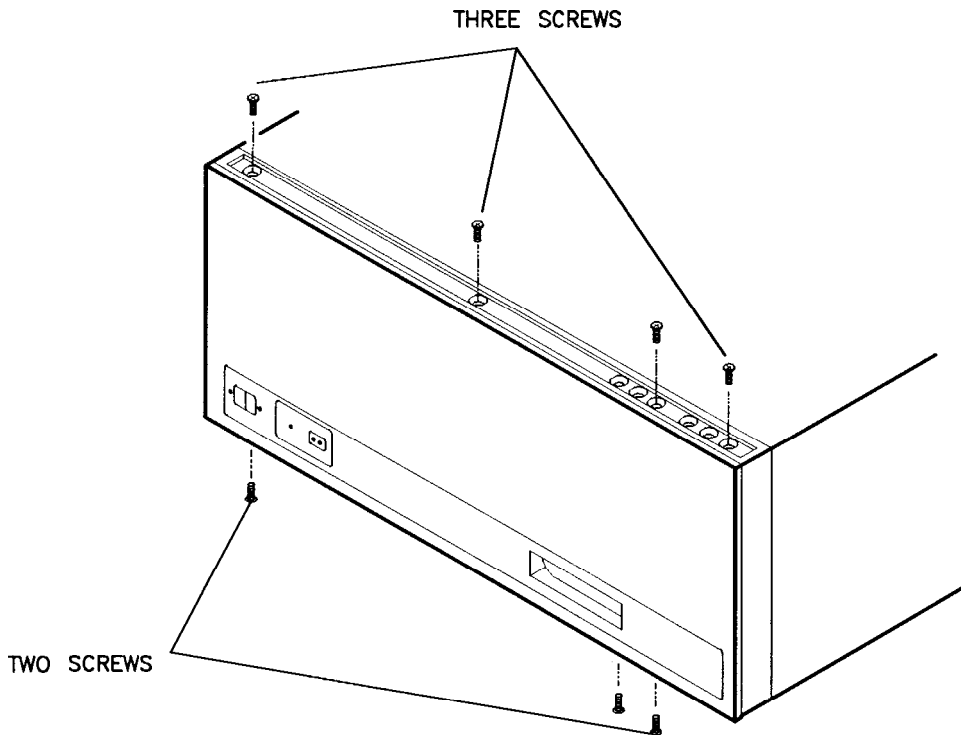

Figure 7-4. Front Panel Screw Locations
1. Remove three of the four screws under the trim strip. Refer to Figure 7-4.